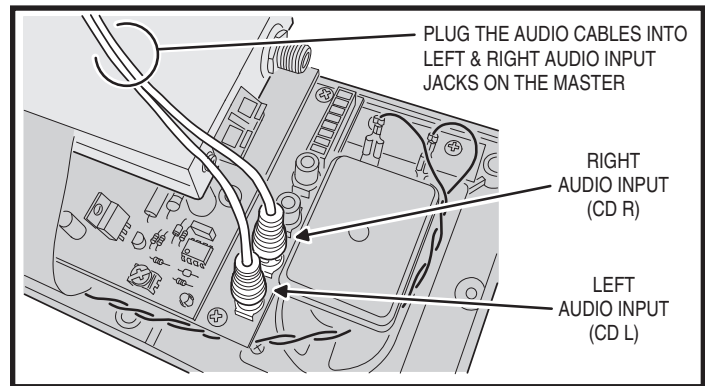

Figure 21. Audio Input Jacks on Master Station
2. Insert the player audio cable's **BLACK** RCA plug into the CD L jack on the DMC3-4 Master Station, then insert the cable's **RED** RCA plug into the CD R jack on the DMC3-4 Master Station (see Figure 21).